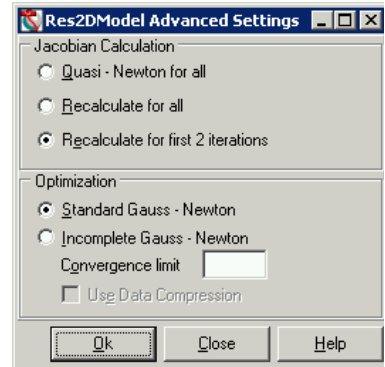

Figure 4.4 RES2DINV settings - advanced inversion settings.
- The **Advanced** button controls settings related to Quasi-Newton calculations and optimizations using Incomplete Gauss-Newton (Figure 4.4).